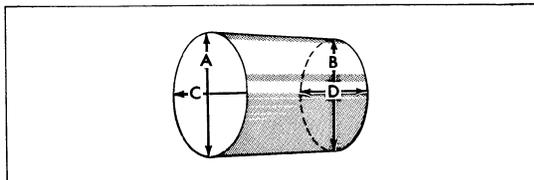

Figure 37
13. Measure the diameter of each journal in four places to determine out-of-round, taper or wear, Figure 37. If the journal exceeds the specified wear limit, Chapter 4, refinish the journal to the next undersize bearing. Always reproduce the same journal radius that originally existed and, after refinishing, chamfer the oil holes.